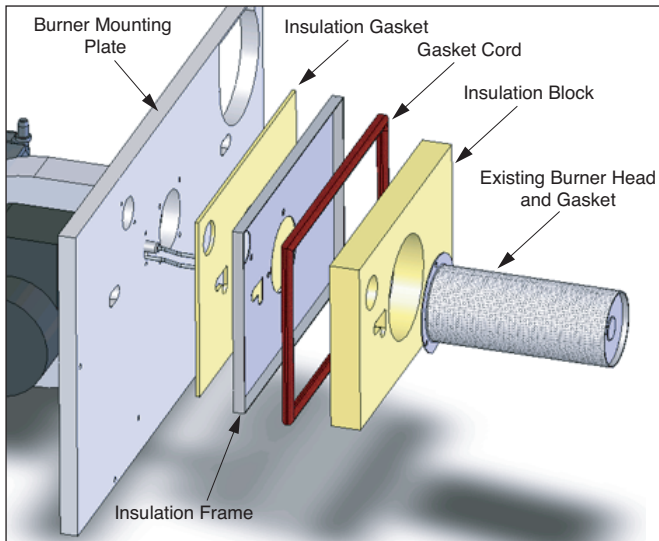

Fig. 4 : Burner Plate Insulation Assembly
5. Place the Insulation Gasket against the burner mounting plate. Align the gasket with the ignitor opening and the sight glass. See Fig. 4, page 5